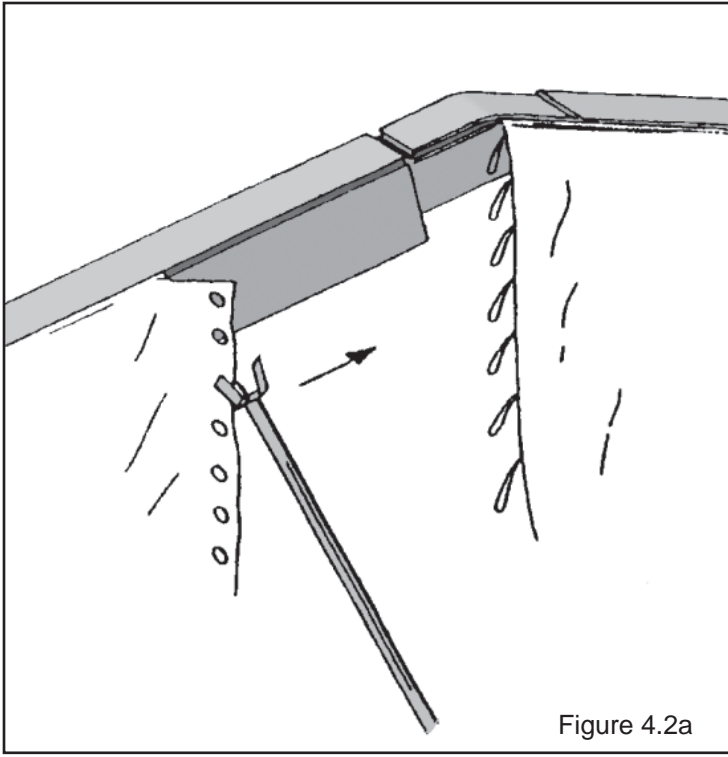

Figure 4.2a
- 4.2.2 Using the purlin fork, grab the ring with the end of the tool and push the kedar up through the channel until it is at the center of the ridge. When both pieces of the gable end are installed in the channel and meet at the top, fasten the rings together with the carabiner and begin lacing from the peak down to the bottom of the gable end. Tie off the last loop. See figure 4.2a.